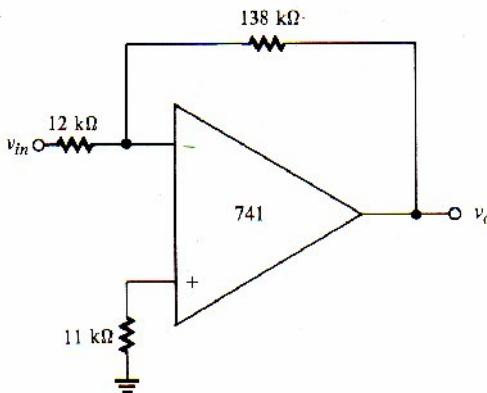

Figure 2-30 (Example 2-16)
Example 2-16. Assuming worst-case conditions at 25°C , determine the following, in connection with the μA741 operational-amplifier circuit shown in Figure 2-30. in the 741 specifications list the unity-gain frequency to be 1 MHz, the maximum value of input offset current(I_{io}) to be 200nA , the maximum value of input offset voltage(V_{io}) to be 5 mV find
1. From equation 2-38, $BW_{CL} = f_i \beta$. From Figure 2-30,